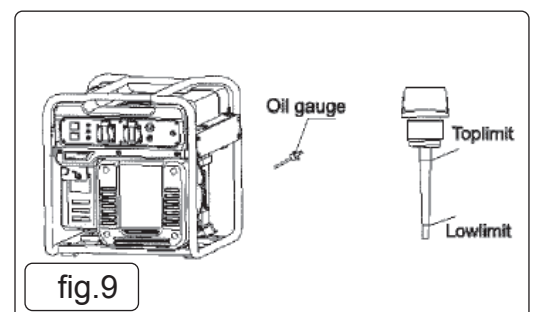

fig.9
4.8.4. Replace oil gauge fig.9.